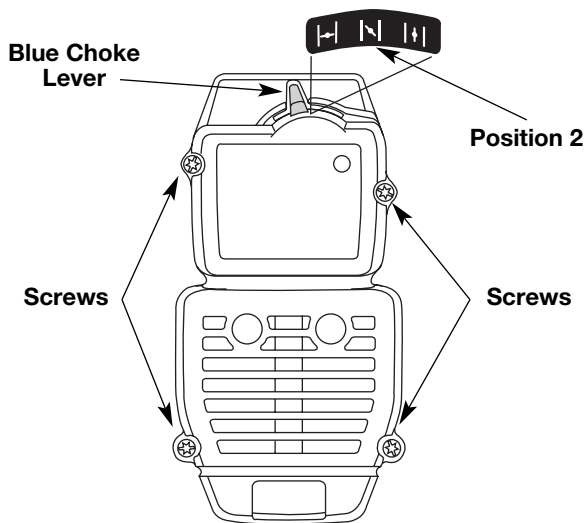

Fig. 23
1. Place the blue choke lever in Position 2 (Fig. 23).
2. Remove the four (4) screws securing the air filter/muffler cover (Fig. 23). Use a T-20 Torx bit screwdriver.
2. Insert the four (4) screws into the holes in the air filter/muffler cover (Fig. 23) and tighten. **Do not over tighten.**